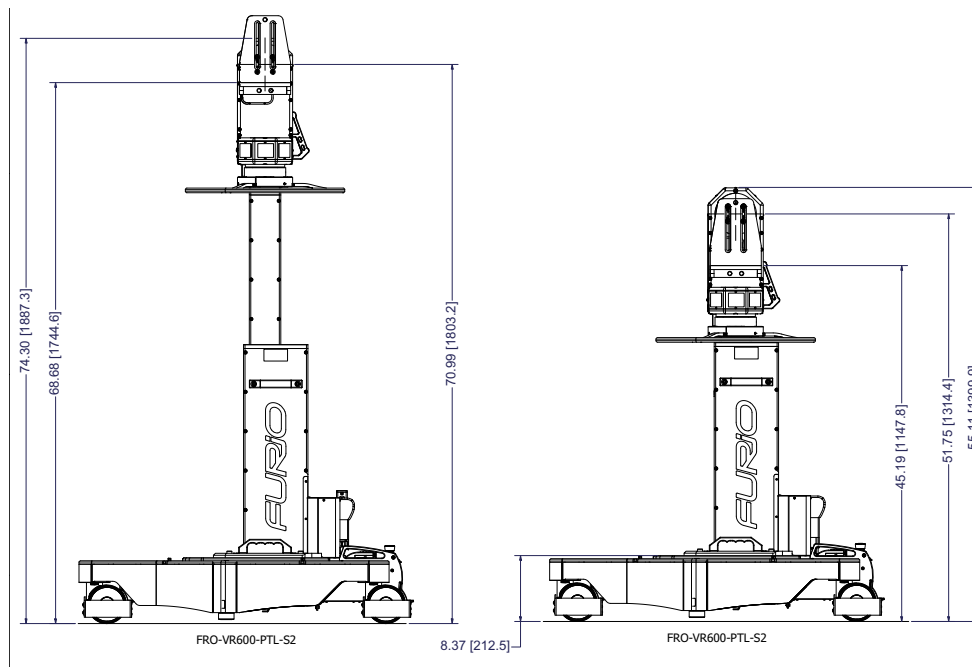

Figure 1 - Dimensions of the BlackBird S2 Pedestal with a VR600 Head (side view)
- **Figure 1** - Dimensions of the BlackBird S2 Pedestal with a VR600 Head